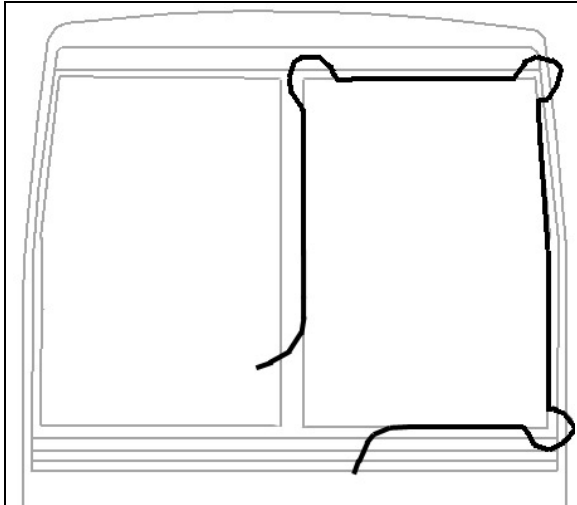

FIGURE 48: WINDSHIELD INSTALLATION USING ROPE
2. Insert rope into rubber extrusion leaving enough length at each corner to make a loop. Spray soapy water onto rope and rubber extrusion (Figure 48).